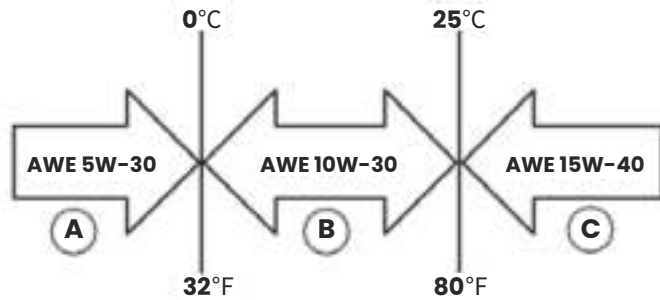

Figure 14 : Recommended Oil
1. Only use the engine oil specified in Figure 14.
7. Select the proper engine oil as specified in Figure 14.